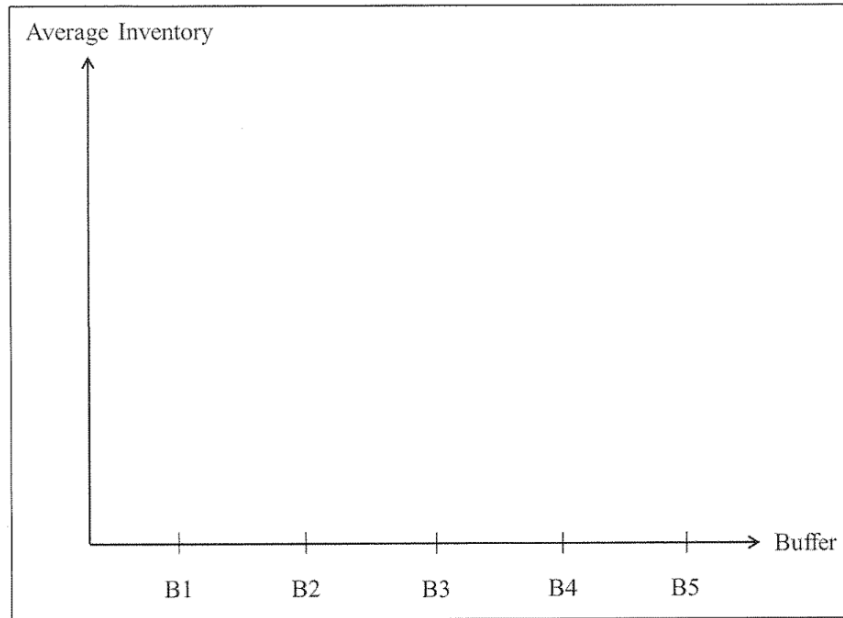

Figure 4. Buffer Space Distribution
- c. Suppose there is a finite buffer between each pair of machines. That is, there are a total of five finite buffers in the transfer line. Assume that the buffers are equally sized. Sketch roughly what the average inventory distribution looks like on the graph in Figure 4. You need not have numerical labels on the Y-axis. Explain qualitatively why the graph looks like it does.